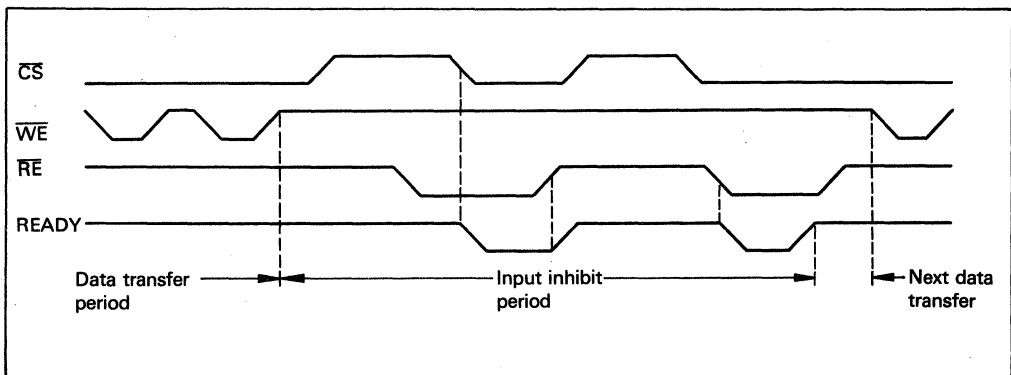

Figure 17 READY Output Timing (When It is Made Available by \overline{CS} and \overline{RE} .)
- READY is made available by \overline{CS} and \overline{RE} (figure 17).